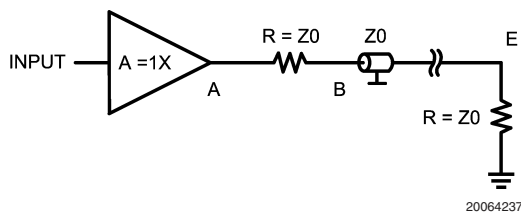
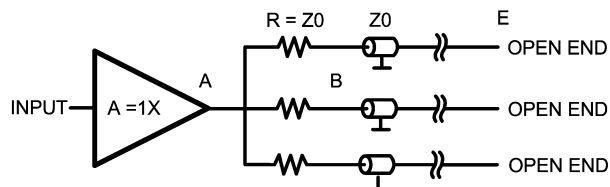
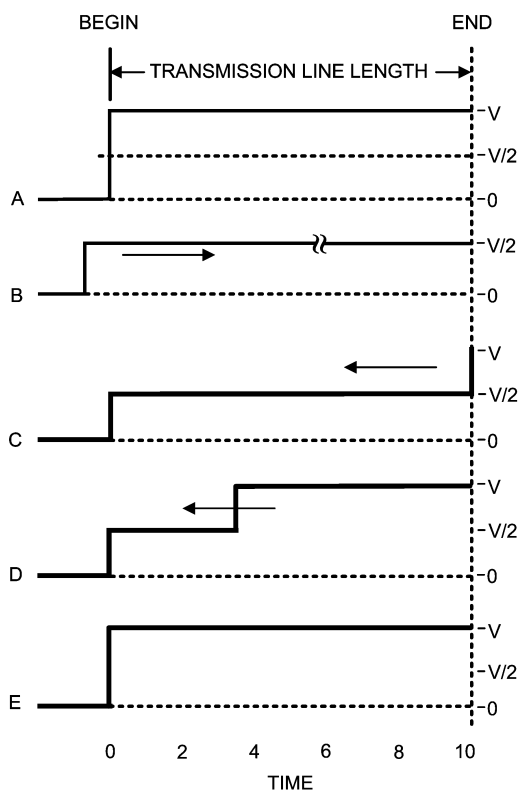

FIGURE 1.
FIGURE 3.
FIGURE 6.
- Use one buffer to drive one transmission line (see *Figure 1*)
- Use one buffer to drive several transmission lines each driving a different receiver. (see *Figure 3*)
In most cases, it is unrealistic to think that we can place a driver or buffer so close to the load that we don't need a transmission line to transport the signal. The pcb trace length between a driver and the load may affect operation depending upon the operating frequency. Sometimes it is possible to do measurements by connecting the DUT directly to the analyzer. As frequencies become higher the short lines from the DUT to the analyzer become long lines. When this happens there is a need to use transmission lines. The next point to examine is what happens when the load is connected to the transmission line. When driving a load, it is important to match the line and load impedance, otherwise reflections will occur and this phenomena will distort the signal. If a transient is applied at $T = 0$ (Figure 6, trace A) the resultant waveform may be observed at the start point of the transmission line. At this point (begin) on the transmission line the voltage increases to (V) and the wave front travels along the transmission line and arrives at the load at $T = 10$. At any point across along the line $I = V/Z_0$, where Z_0 is the impedance of the transmission line. For an applied transient of 2V with $Z_0 = 50\Omega$ the current from the buffer output stage is 40mA. Many vintage op amps cannot deliver this level of current because of an output current limitation of about 20mA or even less. At $T = 10$ the wave front arrives at the load. Since the load is perfectly matched to the transmission line all of the current traveling across the line will be absorbed and there will be no reflections. In this case source and load voltages are exactly the same. When the load and the transmission line have unequal values of impedance a different situation results. Remember there is another basic which says that energy cannot be lost. The power in the transmission line is $P = V^2/R$. In our example the total power is $2^2/50 = 80\text{mW}$. Assume a load of 75Ω. In that case a power of 80mW arrives at the 75Ω load and causes a voltage of the proper amplitude to maintain the incoming power.
Many applications, such as video, use a series resistance between the driver and the transmission line (see Figure 1). In this case the transmission line is terminated with the characteristic impedance at both ends of the line. See Figure 6 trace B. The voltage traveling through the transmission line
Another way to reach several points via a transmission line is to start several lines from one buffer output (see Figure 3). This is possible only if the output can deliver the needed current into the sum of all transmission lines. As can be seen in this figure there is a series termination used at the beginning of the transmission line and the end of the line has no termination. This means that only the signal at the endpoint is usable because at all other points the reflected signal will cause distortion over the line. Only at the endpoint will the measured signal be the same as at the startpoint. Referring to Figure 6 trace C, the signal at the beginning of the line has a value of $V/2$ and at $T = 0$ this voltage starts traveling towards the end of the transmission line. Once at the endpoint the line has no termination and 100% reflection will occur. At $T = 10$ the reflection causes the signal to jump to $2V$ and to start traveling back along the line to the buffer (see Figure 6 trace D). Once the wavefront reaches the series
termination resistor, provided the termination value is Z_0 , the wavefront undergoes total absorption by the termination. This is only true if the output impedance of the buffer/driver is low in comparison to the characteristic impedance Z_0 . At this moment the voltage in the whole transmission line has the nominal value of 2V (see Figure 6 trace E). If the three transmission lines each have a different length the particular point in time at which the voltage at the series termination resistor jumps to 2V is different for each case. However, this transient is not transferred to the other lines because the output of the buffer is low and this transient is highly attenuated by the combination of the termination resistor and the output impedance of the buffer. A simple calculation illustrates the point. Assume that the output impedance is 5Ω . For the frequency of interest the attenuation is $V_B/V_A = 55/5 = 11$, where A and B are the points in Figure 3. In this case the voltage caused by the reflection is $2/11 = 0.18V$. This voltage is transferred to the remaining transmission lines in sequence and following the same rules as before this voltage is seen at the end points of those lines. The lower the output resistance the higher the decoupling between the different lines. Furthermore one can see that at the endpoint of these transmission lines there is a normal transient equal to the original transient at the beginning point. However at all other points of the transmission line there is a step voltage at different distances from the startpoint depending at what point this is measured (see trace D).